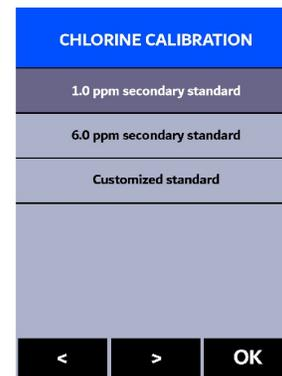

Figure 36.
6. Use **<** and **>** to cycle to the desired secondary standard (Figure 36).
8. Rinse the conductivity/chlorine sample cell three times with deionized (DI) water. Fill the sample cell with DI water.